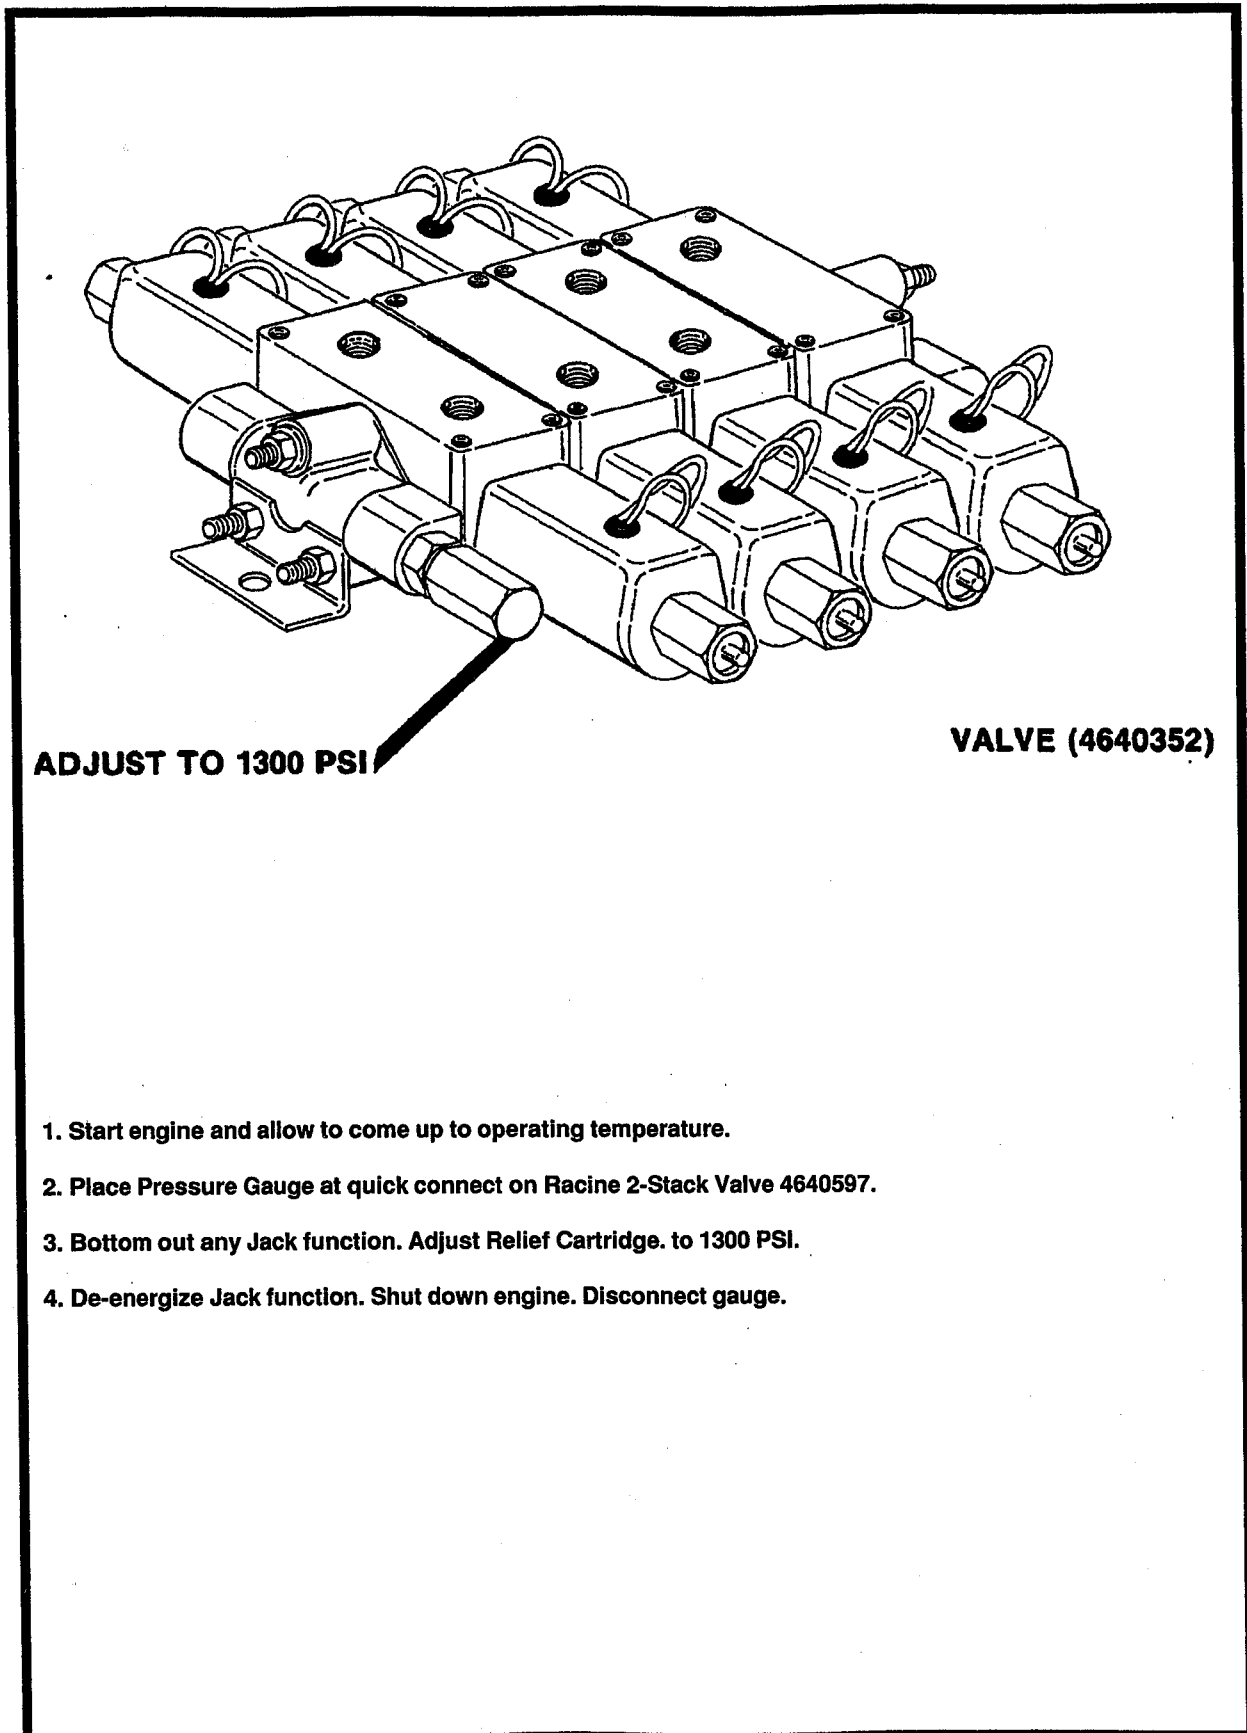

Figure 2-9. Leveling Jacks Pressure Setting Procedure.
- d. Leveling Jack Valve pressure setting procedures are shown in Figure 2-9.